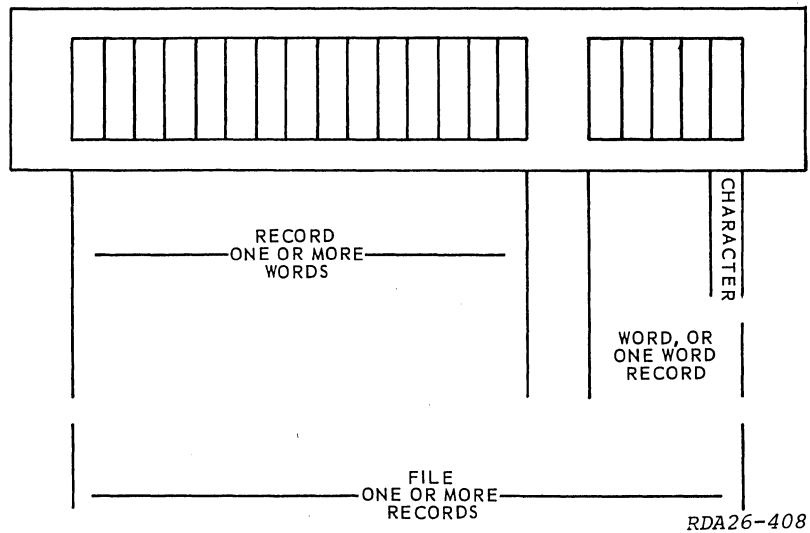

Figure 1-20. Tape Format
**TAPE FORMAT.** Tape format may vary from system to system. For this reason we will discuss a typical tape format using a six-bit character code. If the computer's word length is 30 bits long, then a word would contain five characters (30/6 = 5). Words are written on the tape with no space between them. One or more words written together is a record and there is a recording gap between records (see figure 1-20). A group of records is called a file. Now let's apply this to what we have learned previously. A group of binary bits handled by the computer as a single unit is a computer word. In this case five characters on tape. A computer word can be either a data word or an instruction word. If instruction words were written together on tape, they would be considered a record. A series of instruction words written in logical order to solve a given problem is a program. Therefore, a record on tape could represent a program while a file could represent a group of programs.